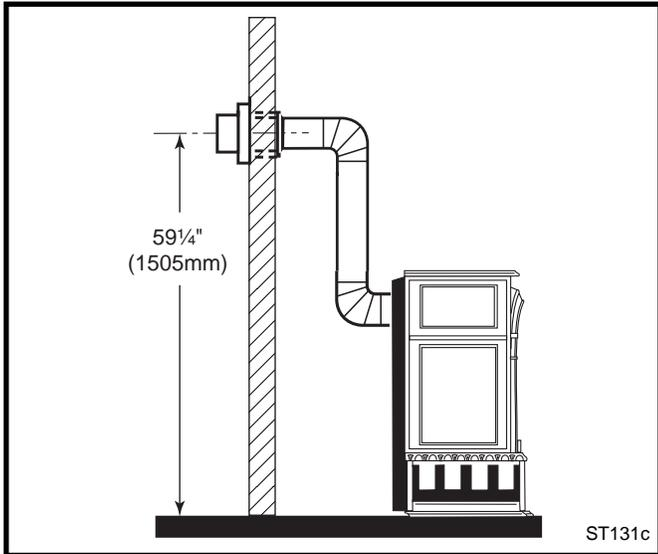
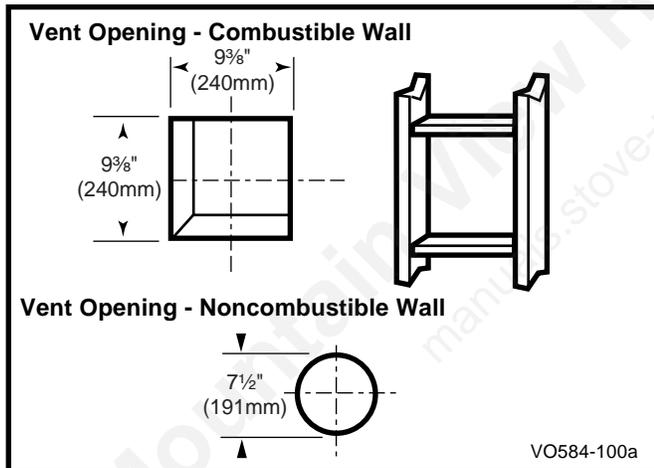

Fig. 27 Minimum wall thimble centerline.
Fig. 31 Locate vent opening.
Refer to Figures 27 & 28 for minimum centerline of wall opening.
1. Locate the vent opening on the wall. Refer to Figures 27 & 28, to determine the minimum centerline of wall opening. It may be necessary to first position the stove and measure to find the hole location. Depending on whether the wall is made of combustible materials, cut the opening to the size shown in Figure 31. Combustible wall openings must be framed as shown in Figure 31.
3. **Cut the opening:** (Fig. 31, Page 20)